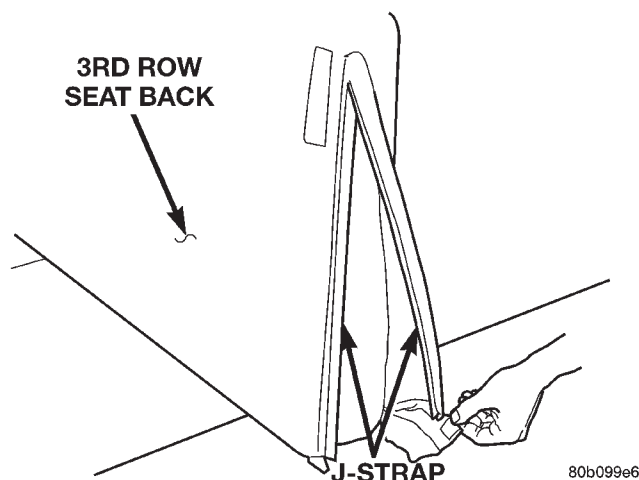

Fig. 15 3rd Row Seat Back Cover J-Strap
- (1) Remove 3rd row seat back.
- (2) Remove head restraints and head restraint sleeves.
- (3) Disengage J-straps on each side of seat back (Fig. 15).
- (4) Disengage J-strap at base of seat back.
- (5) Lift the back of the cover upward and slide seat back frame out of cover.